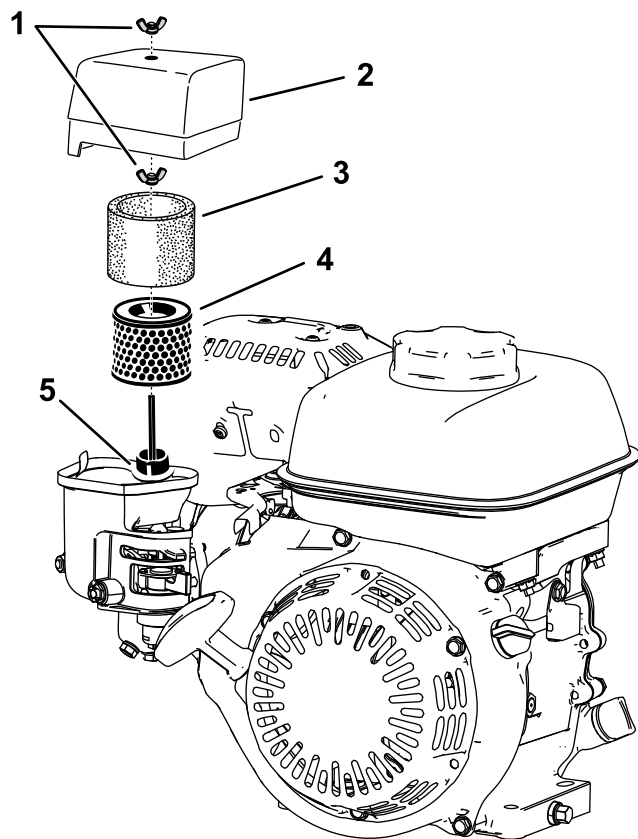

Figure 12
2. Remove the wingnut securing the air-cleaner cover (Figure 12).